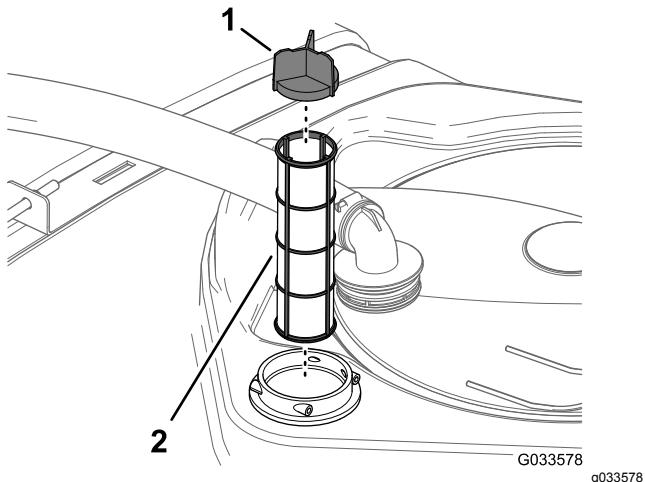

Figure 77
4. Pull the suction strainer out of the strainer housing in the tank (Figure 77).